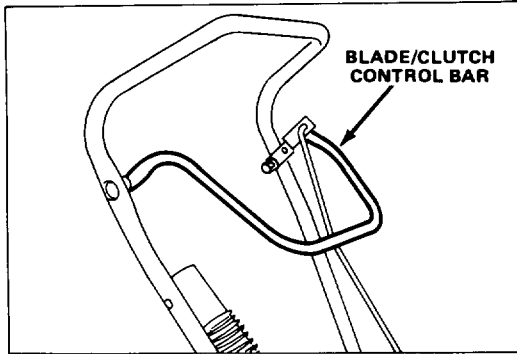
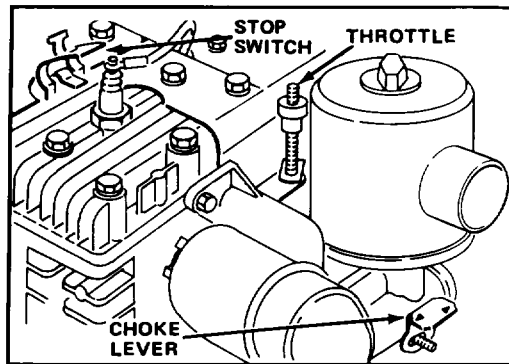
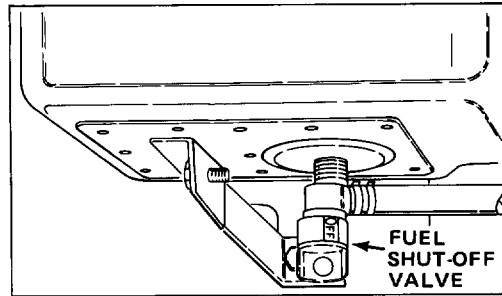
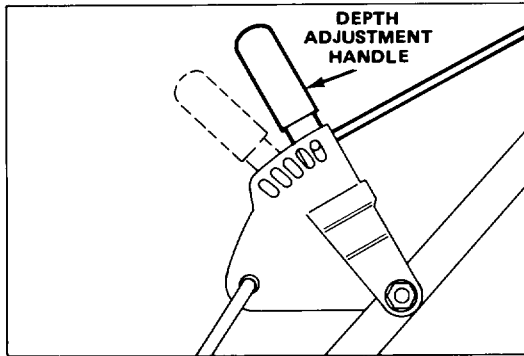

Figure 6
Figure 7
Figure 8
Figure 11
1. **CONTROLS** — Blade/clutch control bar is on upper handle (Fig. 6) and depth adjustment handle is on left side of upper handle (Fig. 11). Throttle, choke and stop switch are engine mounted (Fig. 7).
2. **STARTING** — Push wire onto spark plug and assure blade control is disengaged. Push engine stop switch away from spark plug and make sure throttle is pushed down. Move choke lever to **CHOKE** position. A warm engine will require little or no choking. Rotate fuel shut-off valve to "ON" position (Fig. 8). Place foot on rear wheel and pull recoil starter out slowly until positive engagement results; then pull vigorously until engine starts. When engine starts, gradually move choke lever to "RUN" position.
3. **EDGING** — Squeeze blade/clutch control bar (Fig. 6) against handle to engage blade and move cutter to preset depth. Release blade/clutch control bar to disengage blade and raise cutter head.
4. **STOPPING** — Release blade/clutch control bar (Fig. 6) and push engine stop switch against spark plug. Close fuel shut-off valve (Fig. 8) before storing or transporting machine.
3. ADJUSTING DEPTH (Fig. 11) – Release blade/clutch control rod. Move depth adjustment handle forward to increase blade depth and rearward to decrease blade depth.